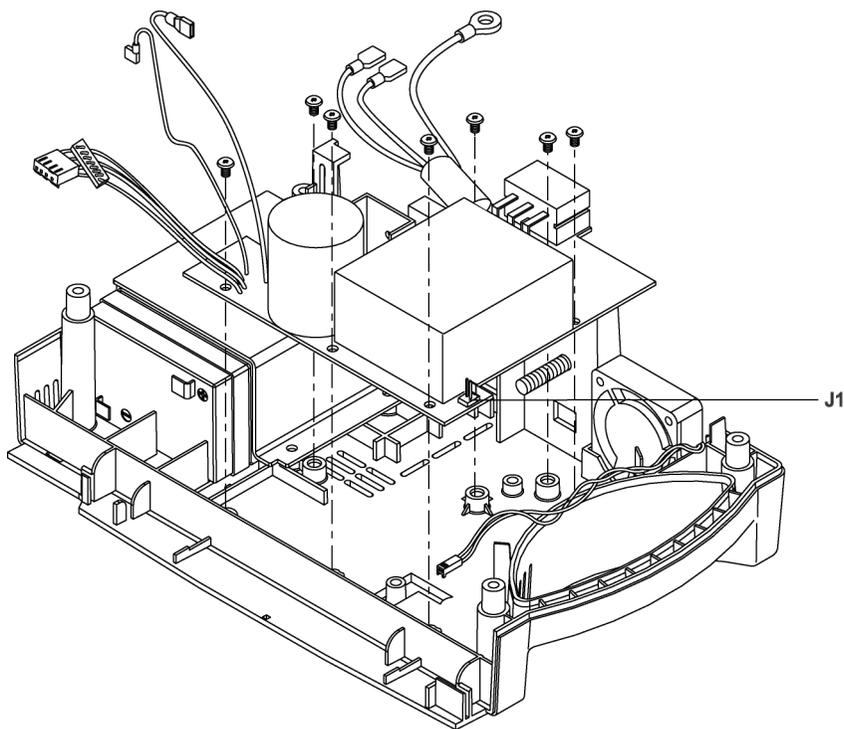

Figure 9: Power Supply
4. Disconnect the fan wire harness from J1 on the Power Supply PCB (see Figure 9).
6. Remove the seven screws shown in Figure 9.